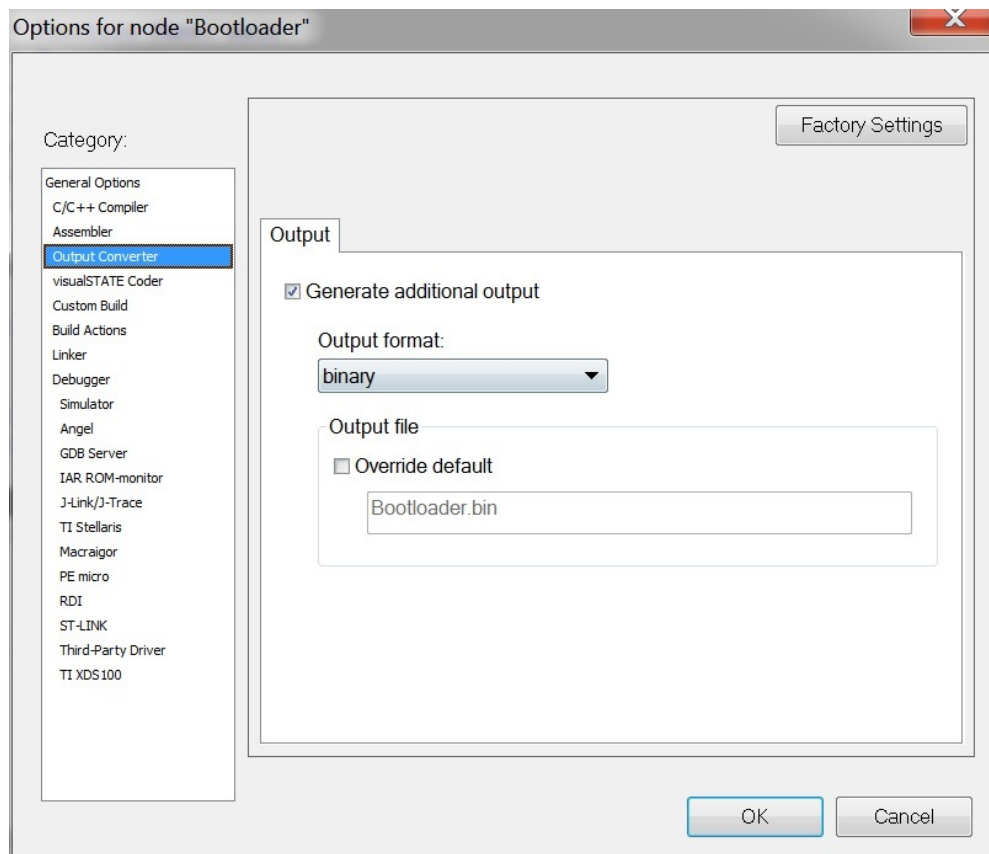

Figure 4: Output converter setup
3. Set the output converter (Project-Options-OutputConverter-Output) in the bootloader project to create a binary file. The binary file is simply the content of the memory, i.e. there is no formatting or address information of any kind. See Figure 4.